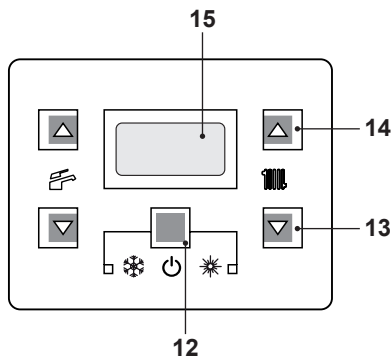
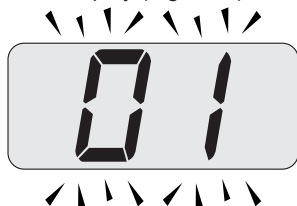

Fig. 8.36
Fig. 8.38
- Enter the "programming mode" by sequentially pressing and holding in keys, 12 - 13 and then 14 (Fig. 8.36) for 10 seconds until the letters **Pr** that alternate with code **01** are displayed on the LCD display, indicating that "parameter 01" (Fig. 8.37) has been activated.
- Press keys 12 and 14 (Fig. 8.36) at the same time until the value of parameter 01 (99=**Advance Plus 16S ERP - Advance Plus 25S ERP - Advance Plus 30S ERP**) is displayed on the LCD display (Fig. 8.38).
- Press keys 12 and 13 (Fig. 8.36) at the same time to exit without changing the value (return to the parameters list Fig. 8.37).
- Press sequentially keys, 12 - 13 and then 14 (Fig. 8.36) and hold in for 10 seconds to exit the "programming mode".